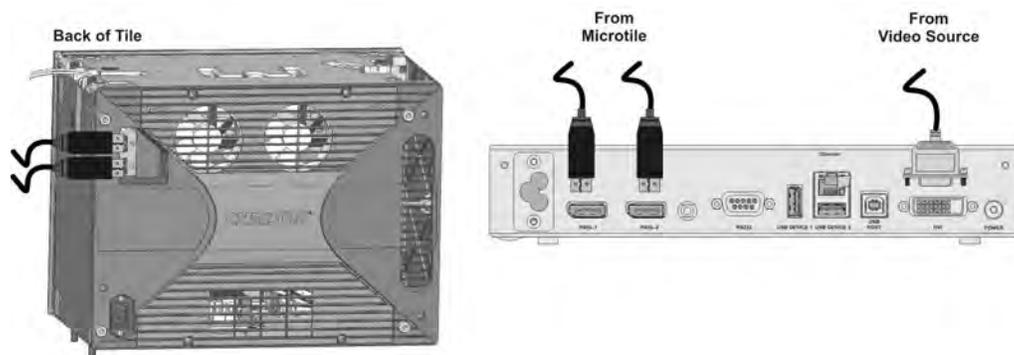

Figure 2-19 Connecting Sources
1. Connect the DVI-D output from video source (i.e., media player) to the DVI-D input on the ECU (**Figure 2-19**).